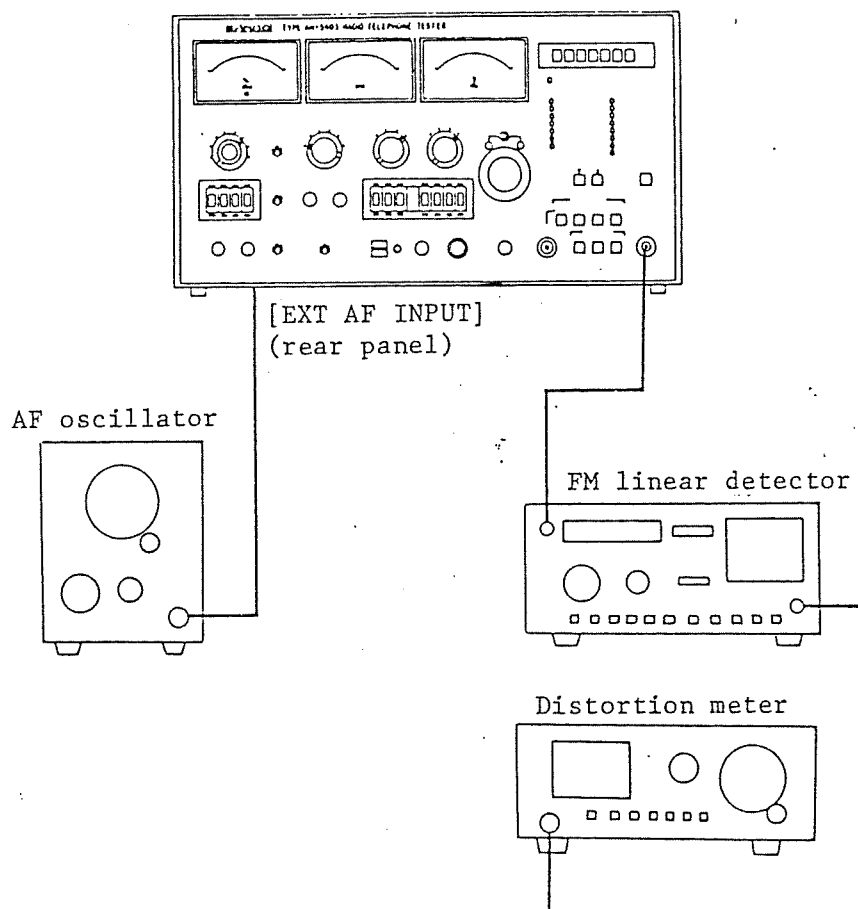

Fig. 3-8 FM modulation distortion rate test
- (1) Connect an FM linear detector to the [RF INPUT/OUTPUT 50  $\Omega$  25 W] connector of this apparatus as shown in Fig. 3-8. Also, connect a AF oscillator to the [EXT AF INPUT] terminal located on the rear panel of the apparatus.
- (2) Set the controls of this apparatus as follows: